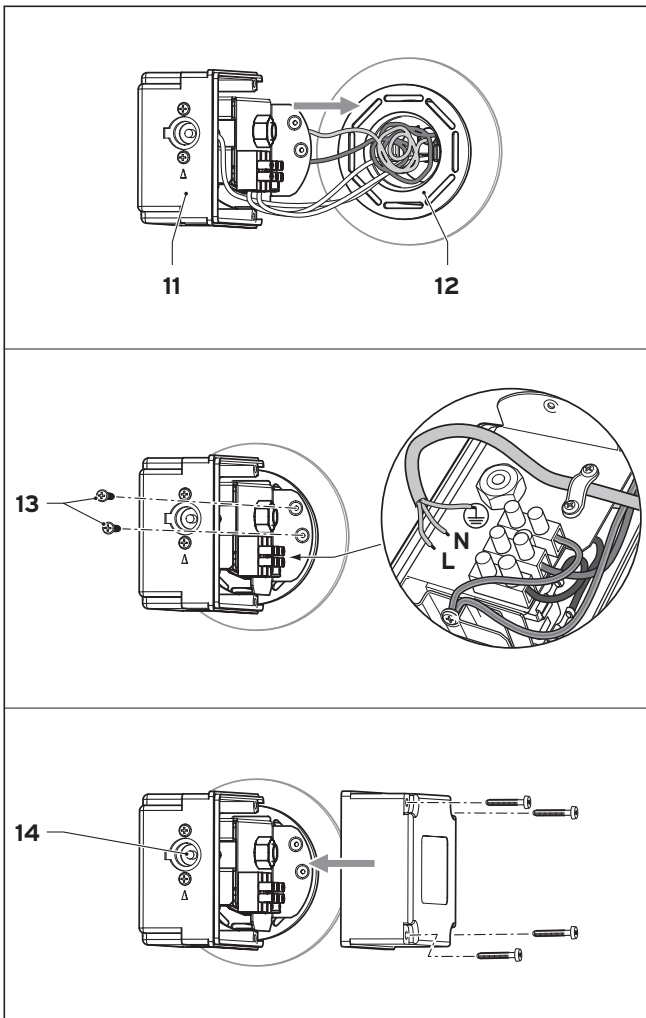

**Fig. 3.6 Electrical connections**
- Now connect the heater wiring (see figure 3.6).